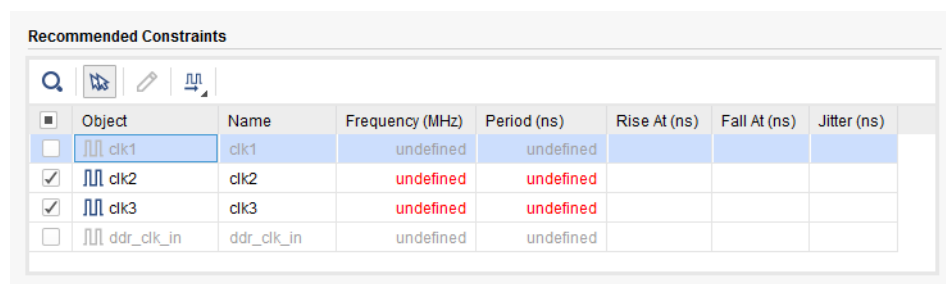

Figure 2-12: Creating and Skipping Recommended Constraints
In Figure 2-12, `clk1` and `ddr_clk_in` are unchecked and will be skipped.
- Enter the missing values by clicking on the cells that show **undefined** (for example, the **Frequency** or **Period** value for `clk2` and `clk3` in Figure 2-12).